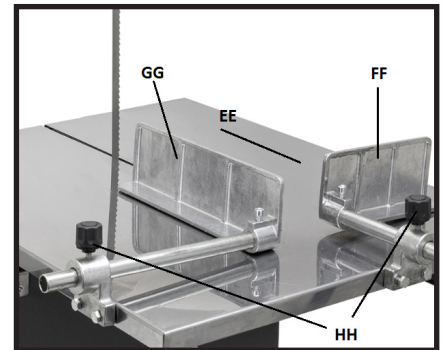

Figure 17
Note: The fence and the pusher have adjusting knobs (HH) allowing you to adjust the placement of both, depending on the size of the piece of meat. (Figure 17)